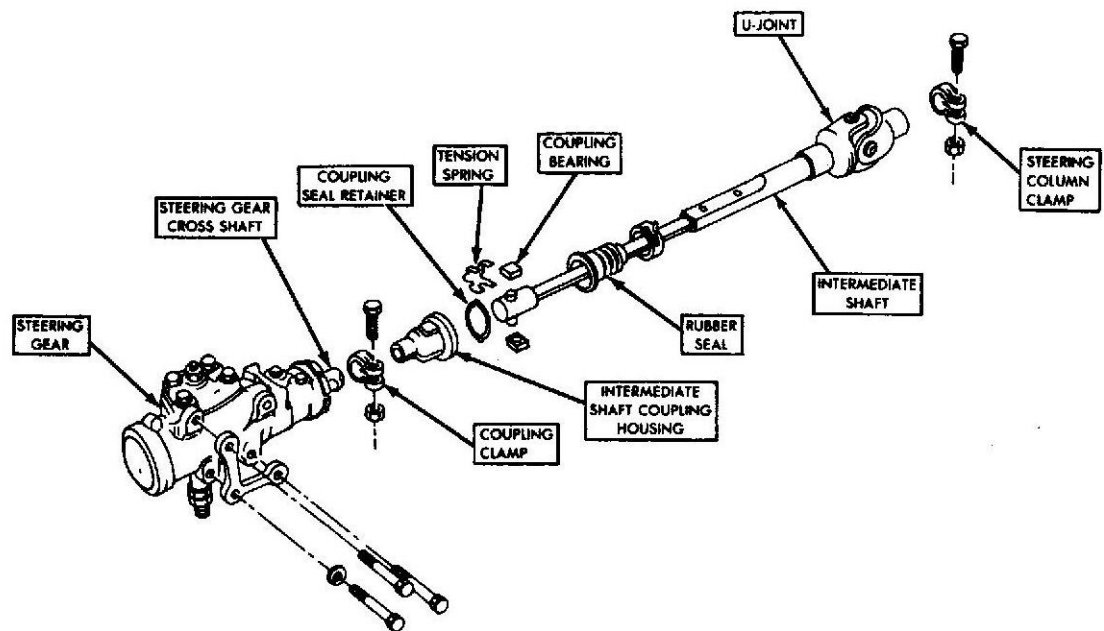

Figure 2
- (1) Mark position of intermediate shaft to steering column for assembly reference.
- (2) Remove intermediate shaft to steering column clamp bolt and nut (see Figure 2).
- (3) Remove coupling to steering gear clamp bolt and nut.
- (4) Remove intermediate shaft and coupling assembly.
- (5) Wrap intermediate shaft with shop towel and place in vise or suitable holding fixture.